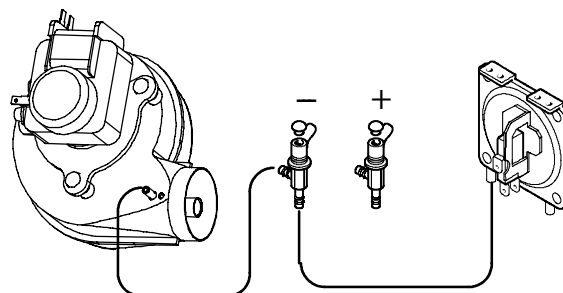

Fig. 79
**Warning:** to correctly connect the venturi device to the Air pressure switch, refer to Fig. 79.
**Warning:** to correctly connect the Air pressure switch, refer to Fig. 79 and Fig. 76a or Fig. 76b for the correct wiring.